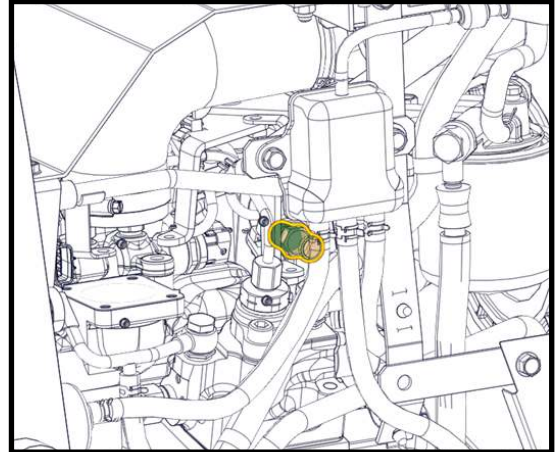

Figure 19.9 Heater Return Fitting
- 19.9 Remove plug from the water pump and insert straight fitting (from cab hardware kit) shown in Figure 19.9 into right engine tie in (return). Use pipe thread sealant.